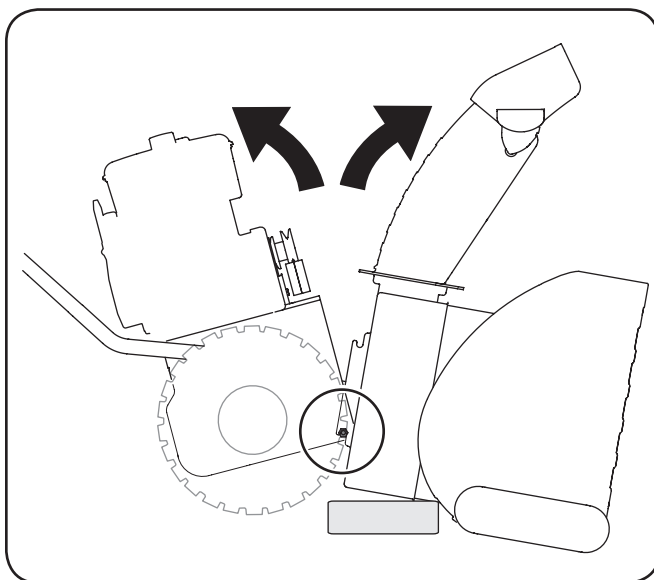

Figure 8-6
5. Place a block of wood underneath the auger housing as shown in Fig. 8-6 and separate auger housing from the transmission frame by tilting the housing forward and pulling up the handles.